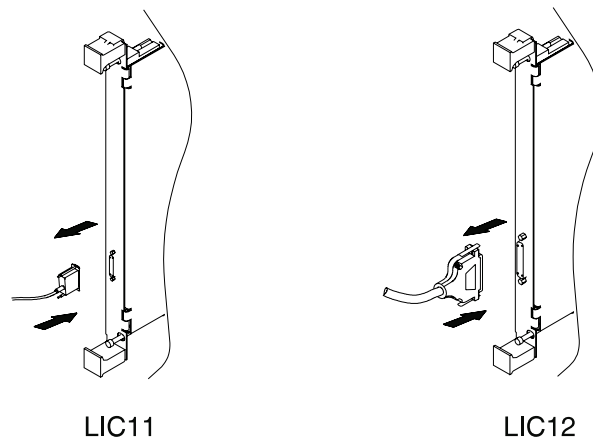

Figure C-7. LIC11, LIC12, and their Cables
Step 2 Push in the connector and tighten the retaining screws (see Figure C-7).